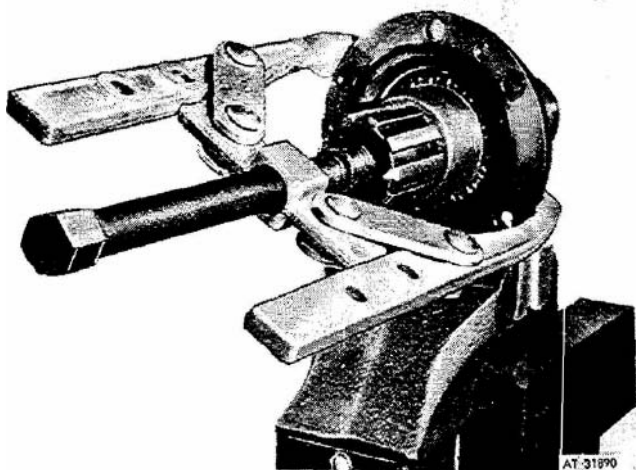

Figure 3-94. Removing pinion from housing.
(9) Remove cotter pin (41) and nut (42) from pinion. Secure housing (50) in a suitable vise. Using a suitable puller, remove sleeve (44), bearing cone of bearing (49), shim (52), and assembled pinion (53) from housing (fig 3-94).